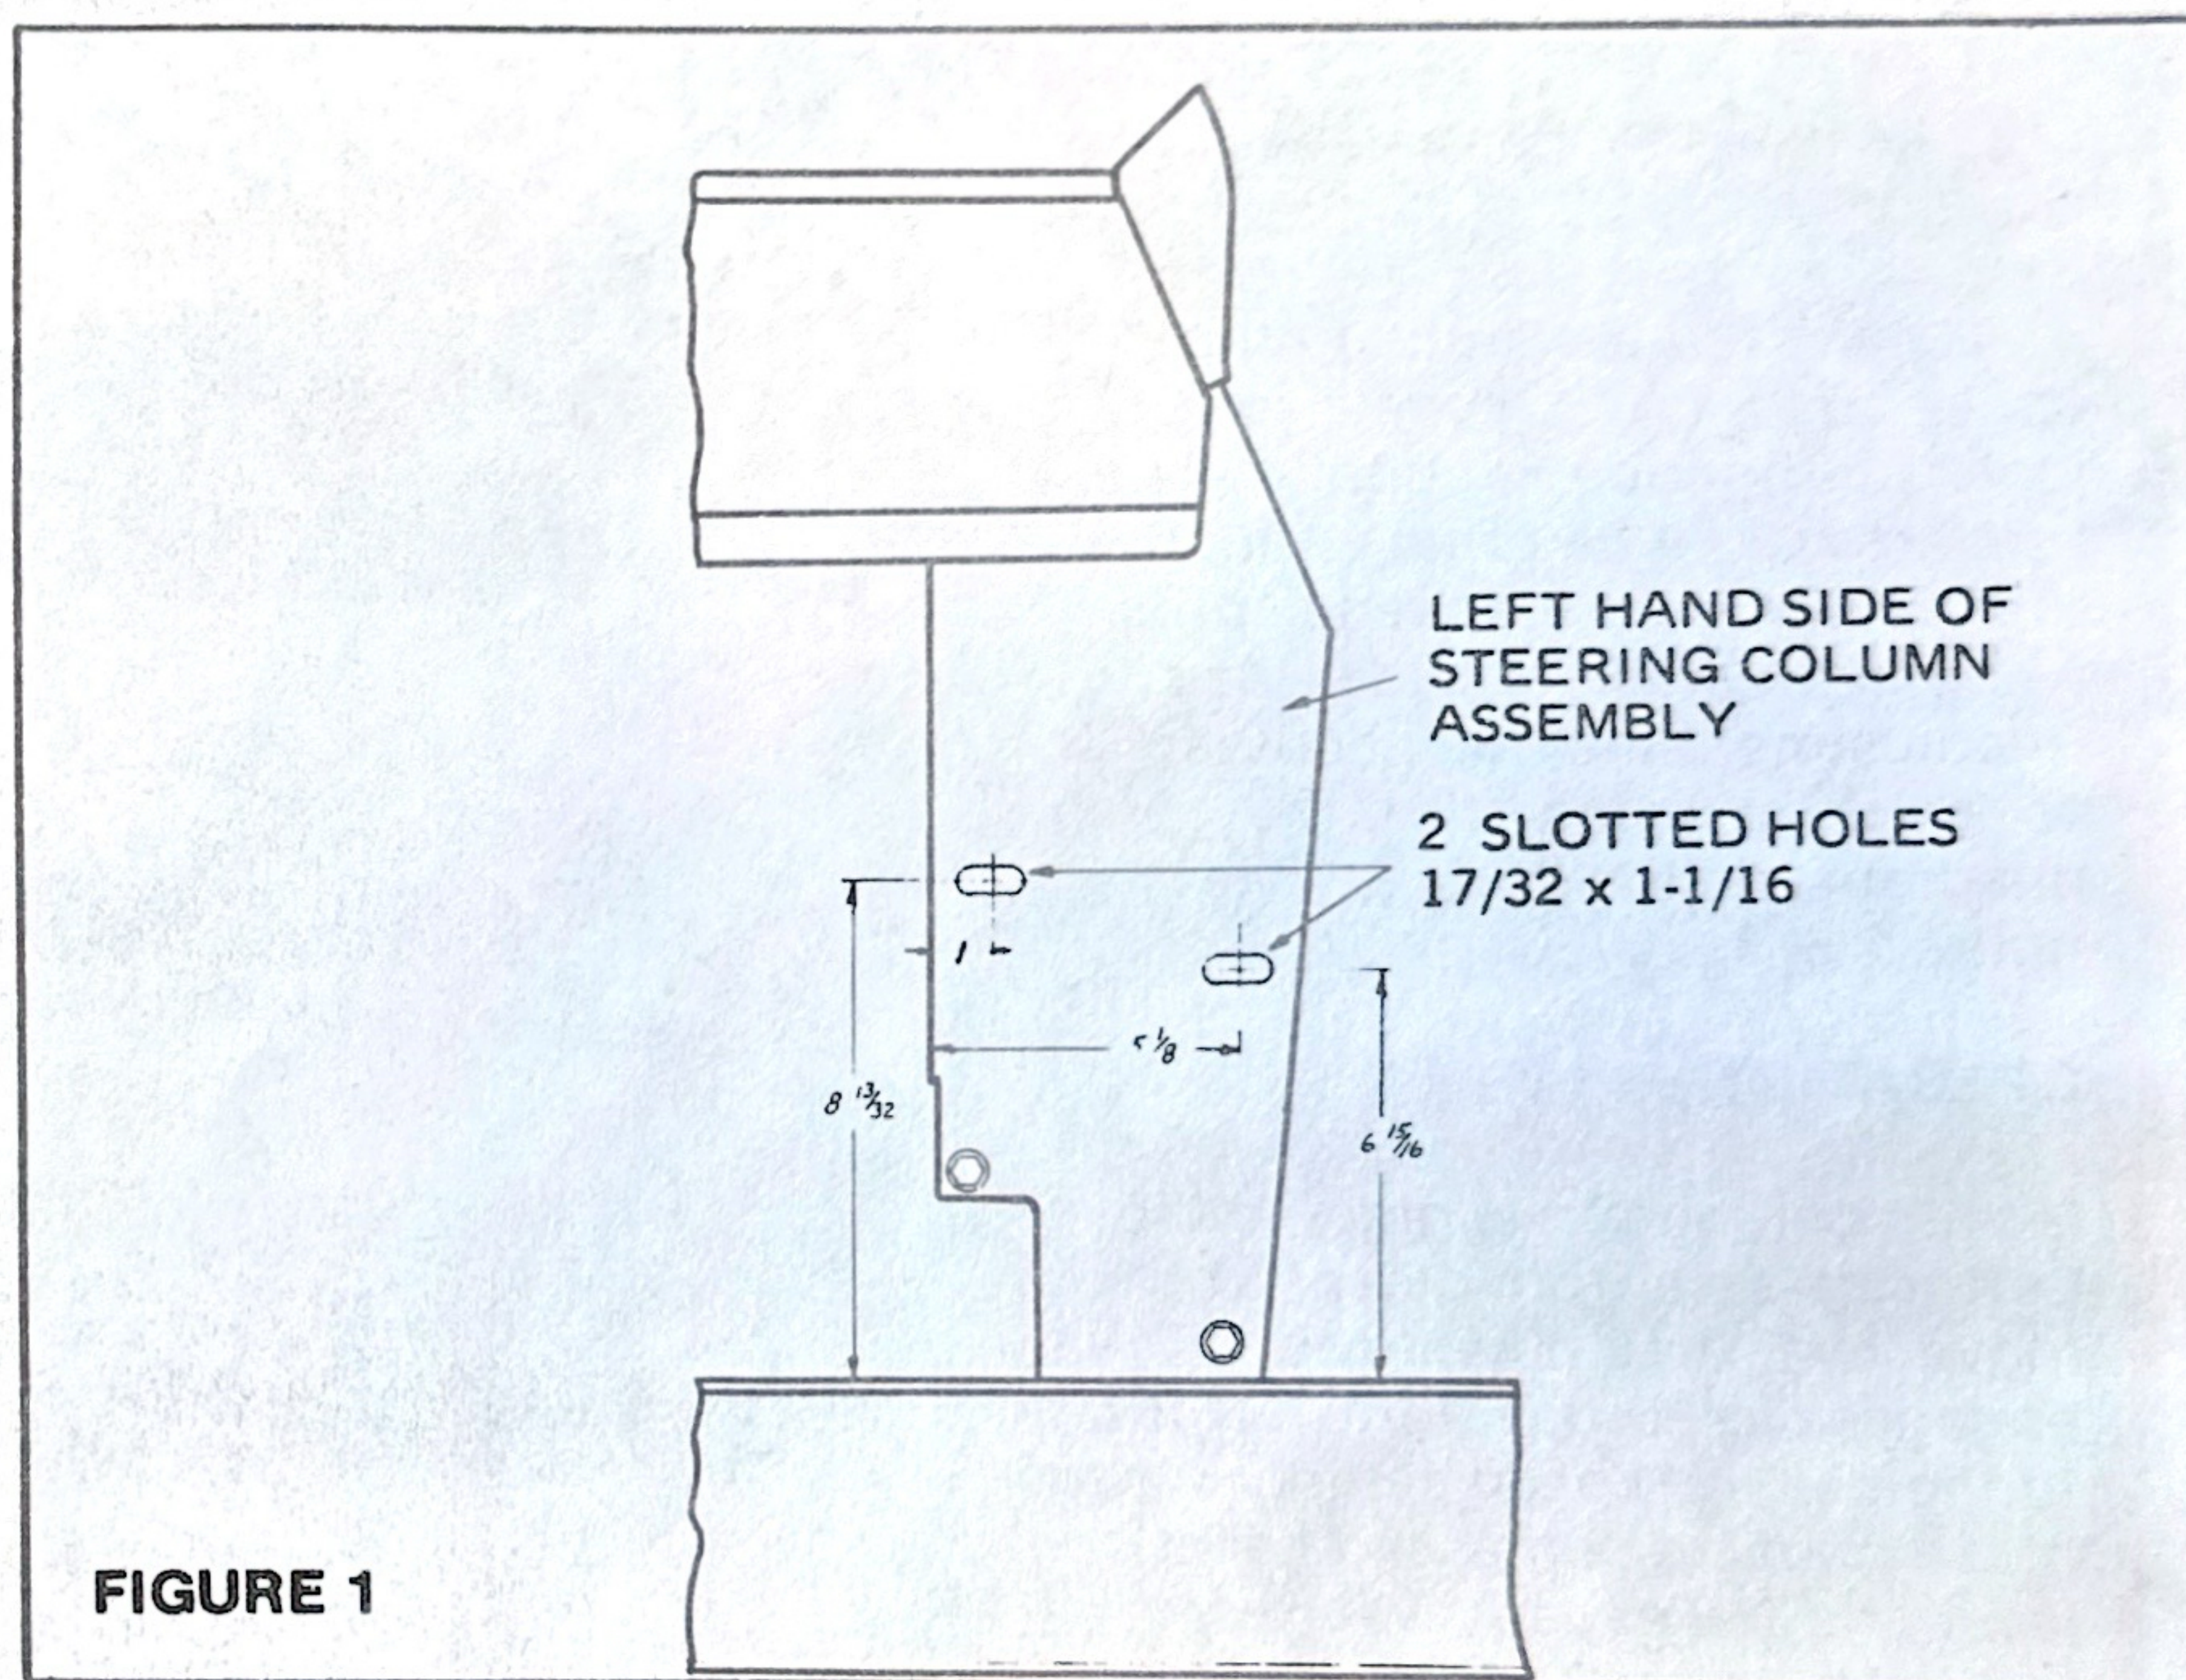

FIGURE 1
2. Layout and cut two slotted holes into the Left Hand side of steering column assembly. See figure 1.